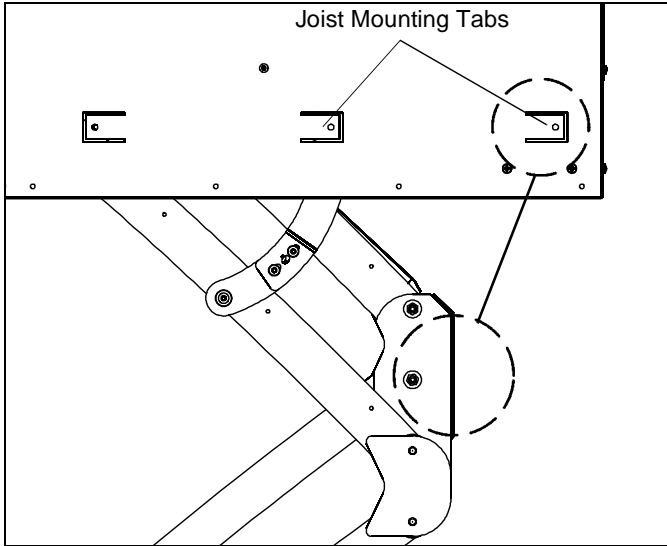

Figure 4
10. Connect these wires to the front of hinge assembly. (See Figure 4)